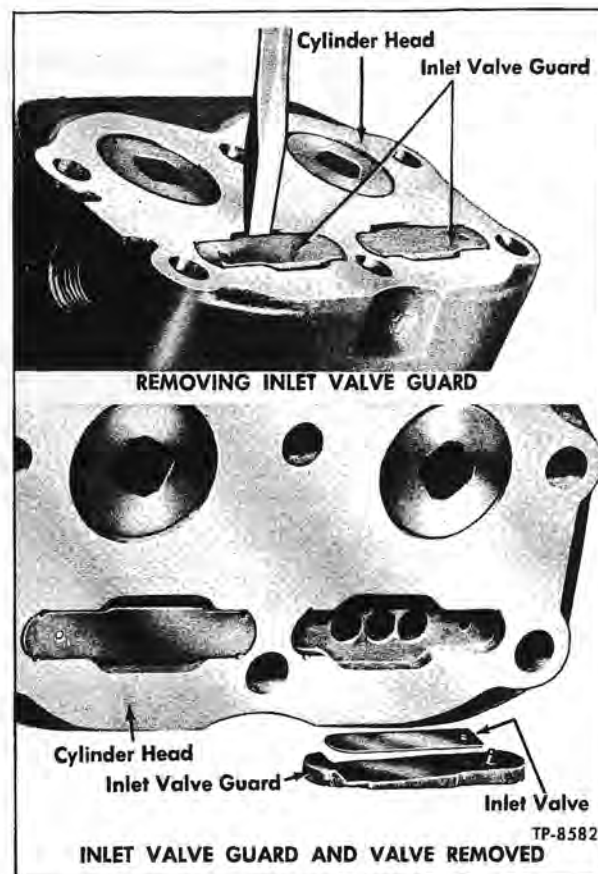

Figure 5—Inlet Valve and Guard Removal
3. Using a screwdriver, pry inlet valve guard and pin assemblies from bottom of cylinder head; then remove inlet valves in manner illustrated in figure 5.